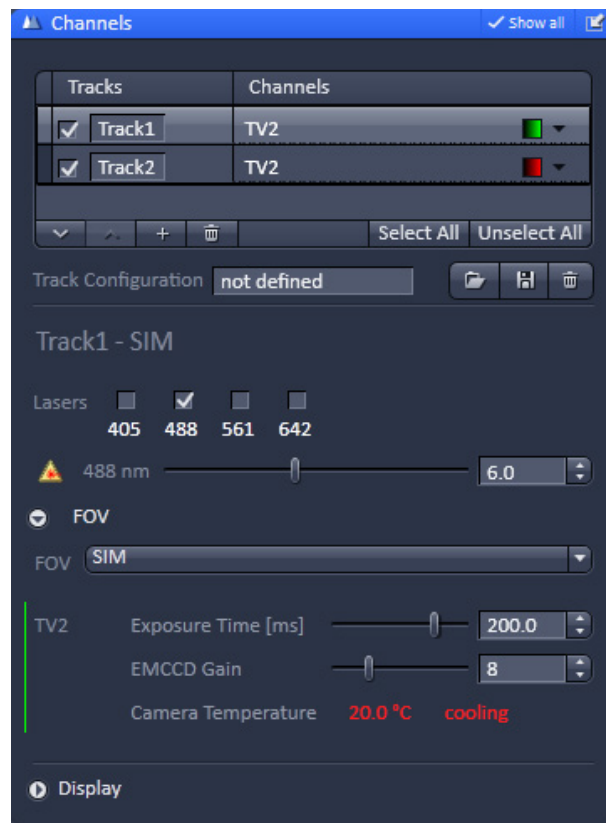

Fig. 30 Channels tool for SIM with two tracks
- Select the **Channels** tab from the Acquisition parameter tool group (Fig. 30).